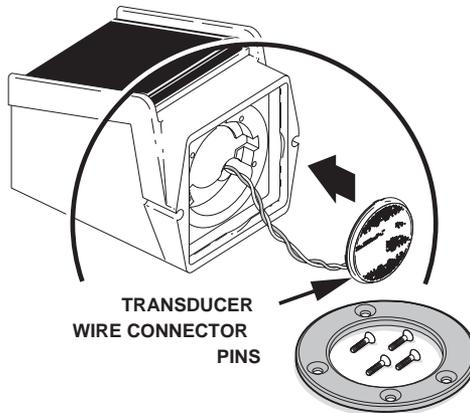

Figure 8-5. Replace Wires, Transducer, and “O”-ring
5. “Feed” the wires back up into the Sonic Tracker II and seat the transducer into place (the two wire tabs have to sit down into the extra deep area of the recess). Place the new “O”-ring around the transducer and seat firmly between the transducer and the Sonic Tracker II transducer recess (Figure 8-5 on page 8-7).